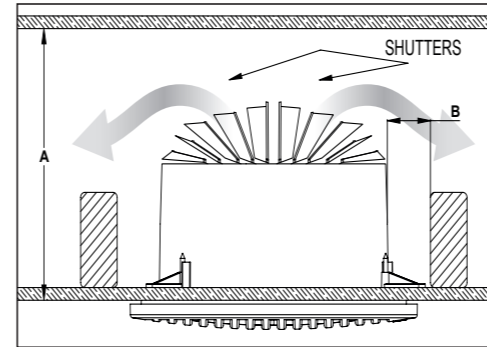

Fig. 1: Minimum clearances for installation.
**Figure 1 measurement A:**
**Figure 1 measurement B:**
It is essential that there is adequate space within the roof cavity so that exhaust air from the fan can dissipate. Where space is restricted, use Fig. 1 as a guide to minimum requirements for adequate ventilation.